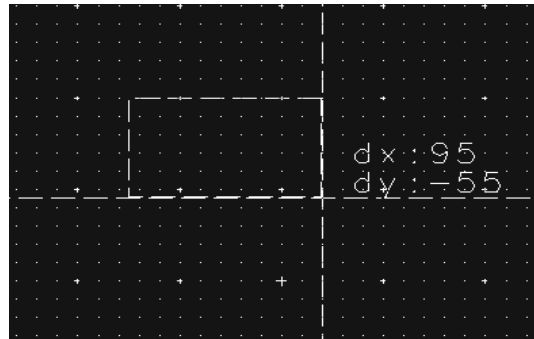

Figure 3: ADS Layout screen displaying rectangle placement
- 2) The footprint for the component in figure 1 is straightforward. As can be seen from the figure, the footprint consists of 14 pads (where the component's pins will be soldered) of equal dimension and spacing. For the VCO shown in figure 1 the pad dimensions are  $D \times K$  or 100mils  $\times$  65mils (see figure 1). These pads can easily be created using the **Insert Rectangle** command. As the rectangle is placed, the dimensions will be shown as seen in figure 3. By default, ADS will use increments of 5 mils (if mils are being used) for placing and moving elements. The dimensions can be made finer by selecting **Options à Grid Spacing** and then selecting the desired dimension resolution. The first of the three numbers corresponds to the increment size (i.e. for <5-1-100> the increment size will be 5mils). For footprints that don't use rectangular pads, the circle or polygon tools provided by ADS can be used. If the components are leaded instead of surface mount, the pads will have to involve three layers. For example, if the layers suggested in step 1 were used for a leaded component, the **hole**, **cond**, and **cond2** layers would be required. The **hole** dimensions would need to be just slightly larger than the component's lead dimensions so that the lead can fit easily through